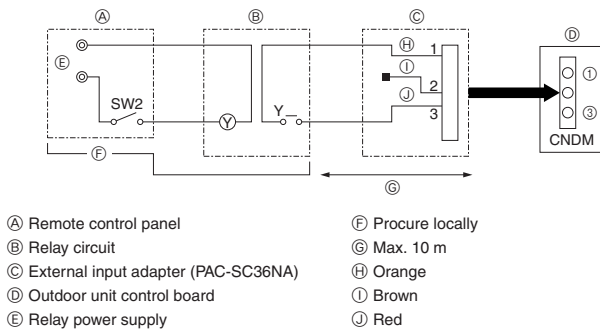

Fig. 9-2
- ① Complete the circuit as shown when using the external input adapter (PAC-SC36NA). (Option)
9.2. Demand function (on-site modification) (Fig. 9-2)